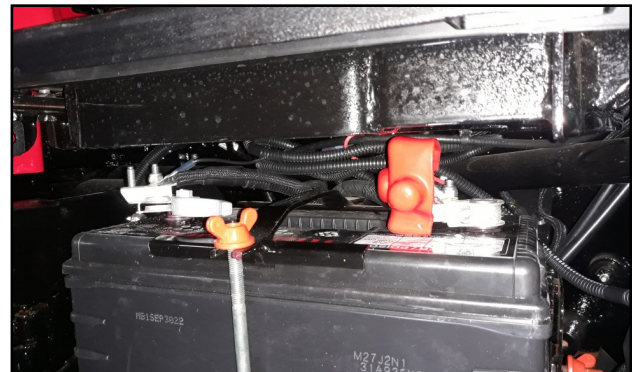

Fig. 11.7 (Power Supply Connections)
- 11.7** Locate the fuse harness (WH-GF). Make certain the fuse is installed in the fuse holder. Connect the fuse harness to the main power harness via the bullet connectors. Install the ring terminal found on the fuse harness to the positive battery terminal stud and secure using the nut which was removed in step 1.1. See Figure 11.7.
- 11.8** Install the ring terminal of the main power wire harness to the negative battery terminal stud. ***Do not reinstall the negative battery terminal at this time.*** Coil the slack in the power harness and secure with a wire tie. See Figure 11.7. Double check that the wires are not pinched or near sharp or hot surfaces.